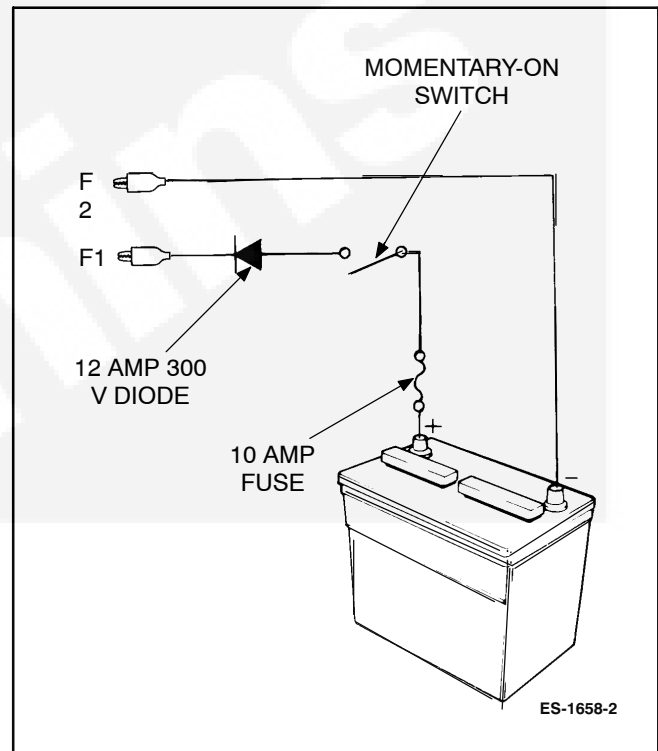

FIGURE 5-3. FIELD FLASHING CIRCUIT
- Assemble a field flashing circuit as shown in Figure 5-3 from a 12V storage battery, a 10A fuse, a momentary On switch, and a 12V 300A diode.